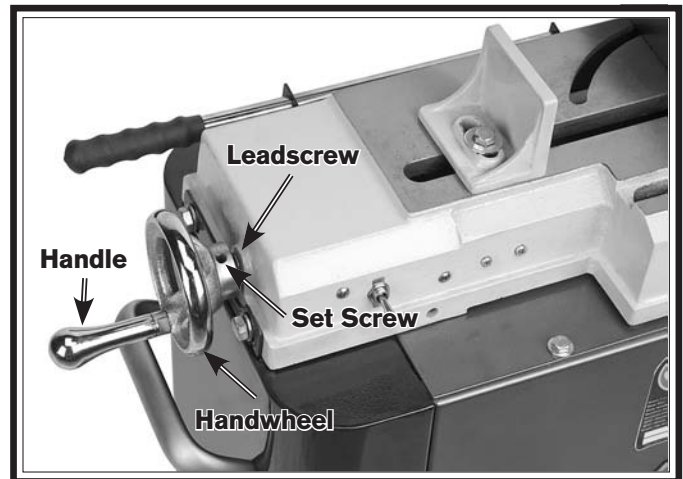

Figure 18. Vise handwheel.
13. Slide the vise handwheel onto the leadscrew and tighten the set screw shown in **Figure 18**. Thread the handle into the handwheel and tighten it.